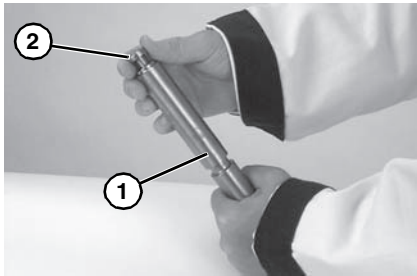

Figure 41
2. Inspect spindle (**Figure 41, item 1**). Replace if worn.
3. Slide bearing (**Figure 41, item 2**) onto spindle.